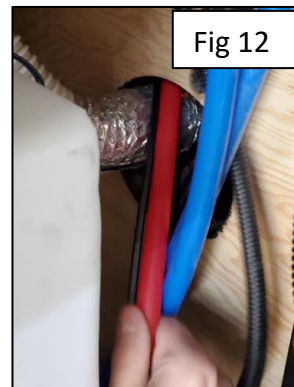

Fig 12
- C. Route the guide and wire up towards the floor. (Figure 12)